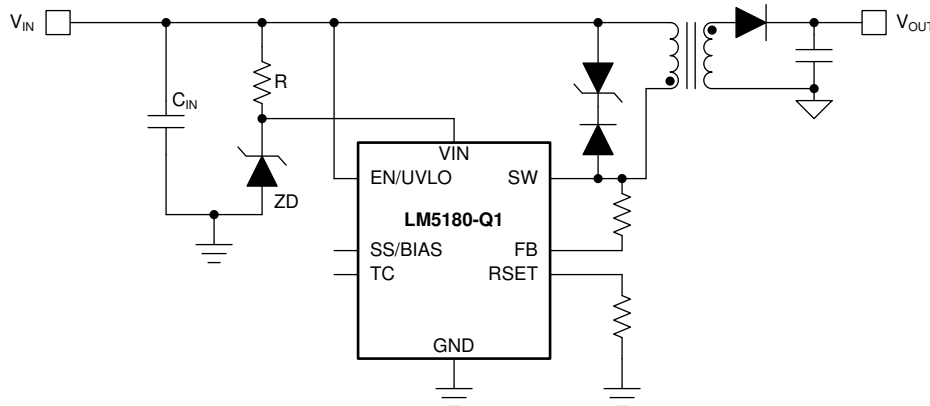

Figure 2. Zener Diode Protecting the LM5180-Q1
The easiest method for extending the input voltage range is adding a Zener diode (ZD) and a resistor R to the VIN pin as Figure 2 shows. However, the Zener regulator limits the voltage only for the VIN pin but does not protect the switch node pin SW. Although the switch node is rated for 100-V it needs to withstand the sum of input and the reflected voltage plus the leakage inductance voltage spike.